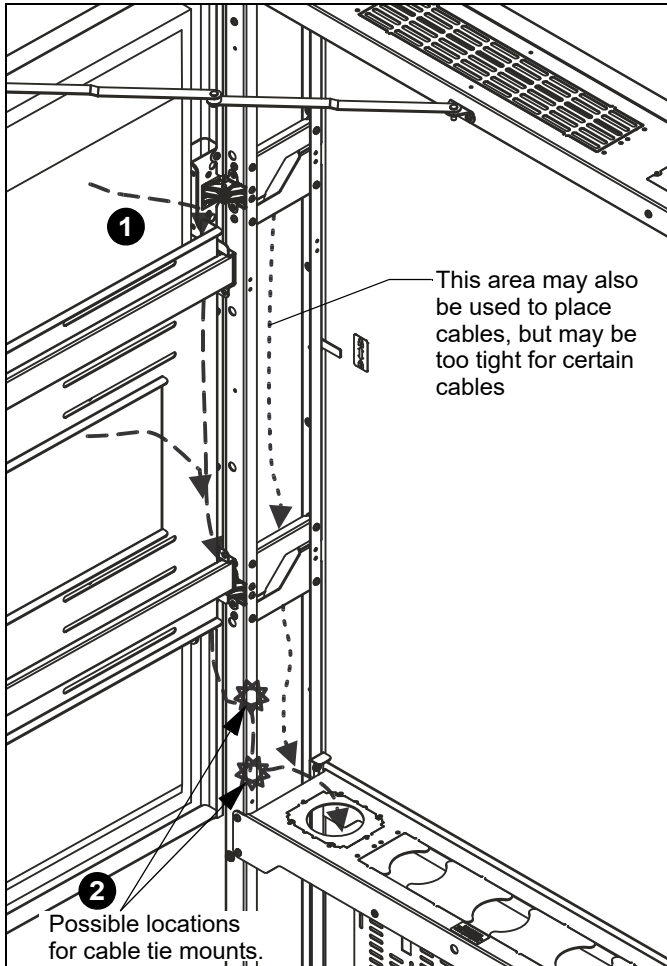

Figure 10
1. Cables may be placed through the corners of the display frame. (See Figure 10)
2. Attach cable tie mounts (G) as necessary to keep cables from being damaged in pinch points of the kiosk. (See Figure 10)